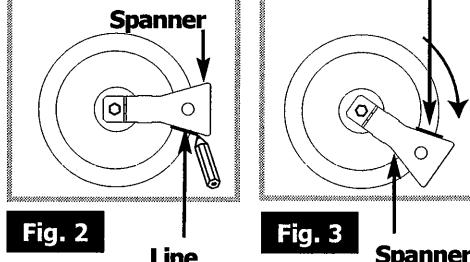

Fig. 3
- ⇒ Turn the spanner clockwise until the line appears on the other side (**fig. 3**). **Warning!** **Do not go beyond this limit as you are liable to cause damage.**
- ⇒ Turn the spanner clockwise until the line appears on the other side (**fig. 3**). **Warning!**